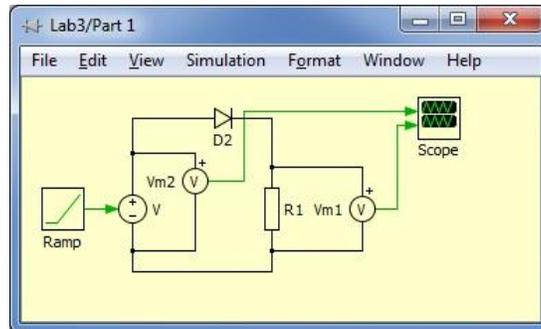
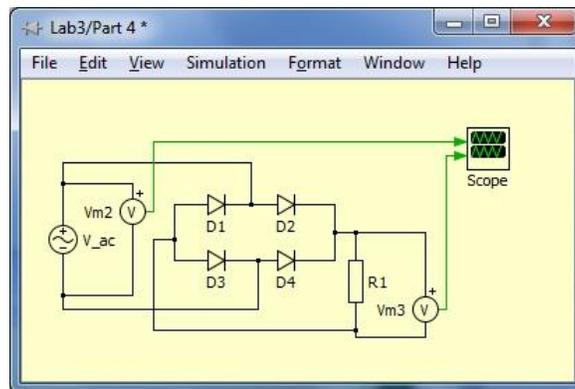

Figure 5: PLECS Circuit 1
Figure 11: PLECS Circuit 4
- For the diode circuit shown in figure 5, let the diode have an abrupt turn-on voltage of 0.7V and a reverse saturation current of $\sim 0\text{A}$ and let the resistor be $R=1.0\text{K}\Omega$. Show the load-line equation for this circuit with variables V and I . Calculate the voltage across the resistor using the graphical load-line approach for $V_s = -10, -6, -2, +2, +6, +10\text{V}$ (show each calculation explicitly). Put the results in a table with columns for V_s and V_R .
11. Create the circuit shown in figure 11 in a new PLECS block. The circuit for part 4 is a full-wave rectifier. Each of the diodes will need to have a Forward voltage of 0.7V and an On-resistance of 0.1 Ω . After building the full-wave rectifier, add a 1 Ω load resistor across the output of the full-wave rectifier. Place a volt meter across the AC source and the load resistor. Simulate the model and record the simulated waveform.
- (1) What is the current through the diode of figure 5 at 1.0V? Compare the value to the theoretical values.
- (2) Compare the output of figure 5 and figure 11. What were the advantages and disadvantages of each circuit.
- (3) When building a rectifier circuit, what are the two primary forces that compete when designing the rectifier?